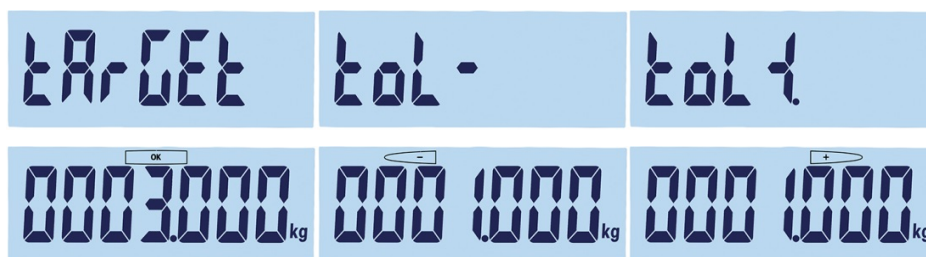

Figure 2-12: Target and Tolerance Displays: Target (left), Low (center) High (right)
- b. Otherwise, the terminal will show "Target" for 1 second, and then display zero weight (Figure 2-12). Select a digit to edit using  to move left and  to move right. Once the required digit is selected and blinking, its value can be increased using  and decreased using . In the example shown in Figure 2-12, the target has been set to 3 kg. Press  to accept this current value as the target and move to the next screen, "Tolerance -".
3.  appears at upper left in the display. Set the using the direction keys, as indicated in step 2.b, above. In this example (Figure 2-12, center), the low tolerance is set to 1 kg. Press  to move to the next screen, "Tolerance +".
4.  appears on the top of the screen. Set the using the direction keys, as indicated in step 2.b, above. Here (Figure 2-12, right), the high tolerance is set to 1 kg.